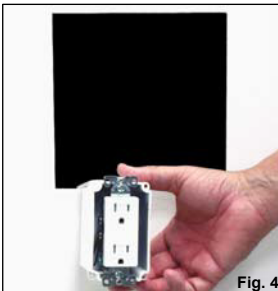

Fig. 4
- Fig. 4** Using the supplied duplex receptacle, push the hot line (black) wire into the push in connector hole labeled HOT and the neutral (white) wire into the push in connector hole labeled WHITE. Be sure to connect the grounding (green) or bare grounding wire to the green colored terminal screw. For shock protection, this UR, UL recognized component receptacle must be properly grounded. Caution – use copper wire only with this receptacle. Once you have wired the receptacle, screw the receptacle into the work box until the receptacle is firmly secured.